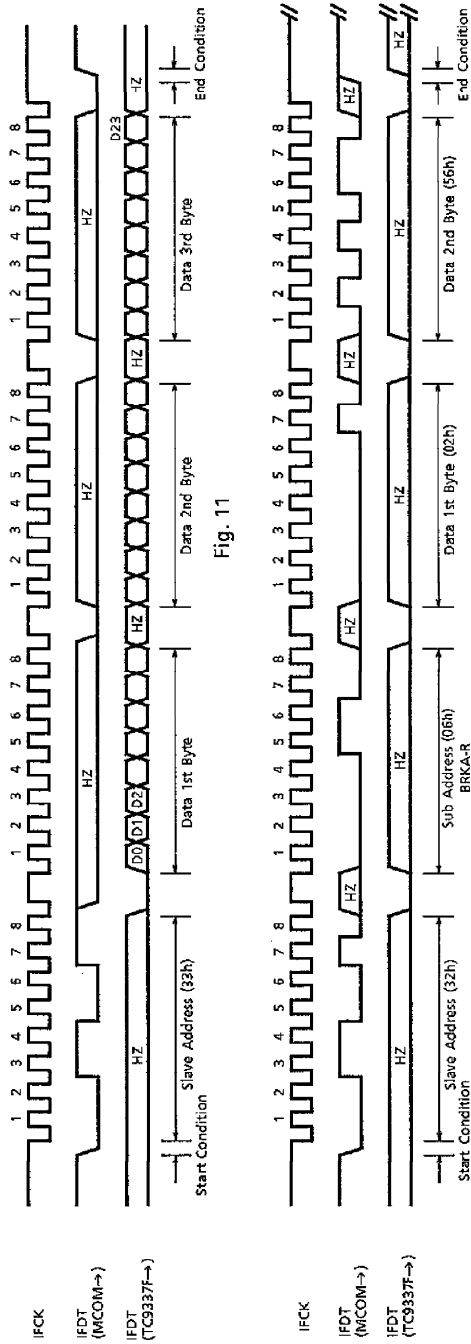

Fig. 12-1
Ex2. Figure 12-1 to 12-3 shows examples of read out data of DBUS as using only program counter (PC) value. Otherwise how to read out data of DBUS as using program counter (PC) value and loop counter value.
① In case of read out DBUS data at program counter value is PC = 256h.
② In case of read out DBUS data at program counter value is PC = 0DCh when loop counter value is each of LC1 = 02h, LC1 = 01h, and LC1 = 00h.